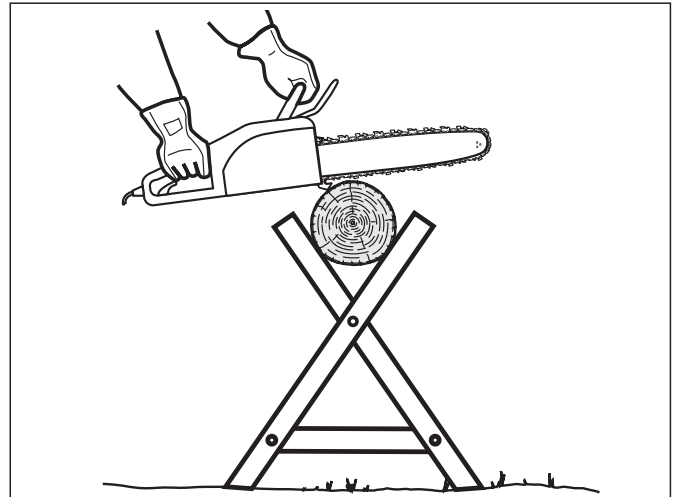

Fig. 29
5. Support small logs on a sawing stand or another log while bucking(Fig.29).